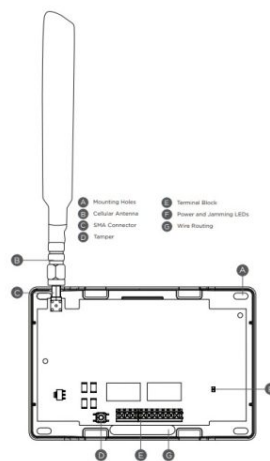

Figure 2: System Components
The module may be powered from the 12 VDC auxiliary output of the control panel. Observe polarity and use 18-22 AWG wire to connect the module's +12 (positive) terminal to the panel's +12 terminal, and the module's -12 (negative) terminal to the panel's -12 terminal. See Figures 2 and 3.
The module should be mounted to a wall using the included #6 screws in the mounting holes. See Figure 2. Mount the module in a secure, dry place to protect the module from damage due to tampering or the elements. It is not necessary to remove the PCB when installing the module.
1. Place the antenna onto the SMA connector. Refer to Figure 2.